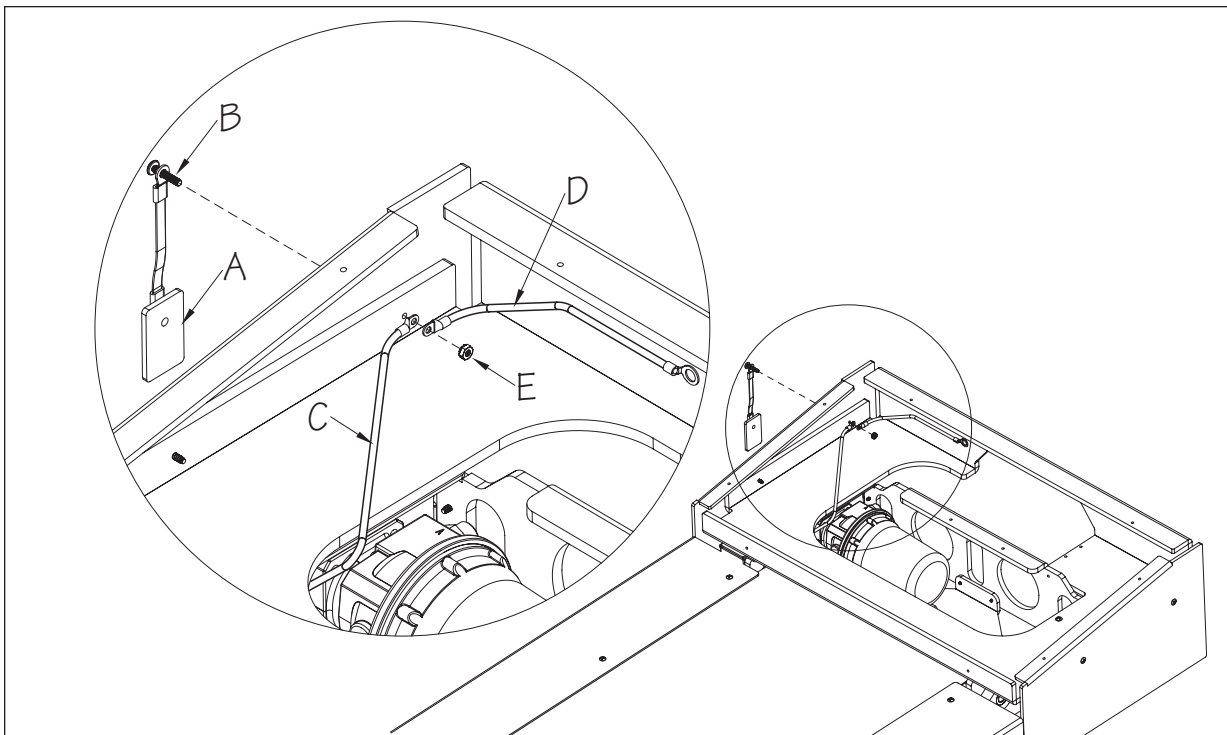

Fig. 8
Attach the lanyard of the Zinc Anode (A) (salt pools ONLY) to the 1" (25mm) Machine Screw (B) and then insert the screw through the hole in the End Cover. Attach Bonding Wire (C), pre-attached to the Fastlane Tread, and the loose Bonding Wire (D) from the installation kit, to the screw. Secure wires with Nut (E) (Fig. 8).